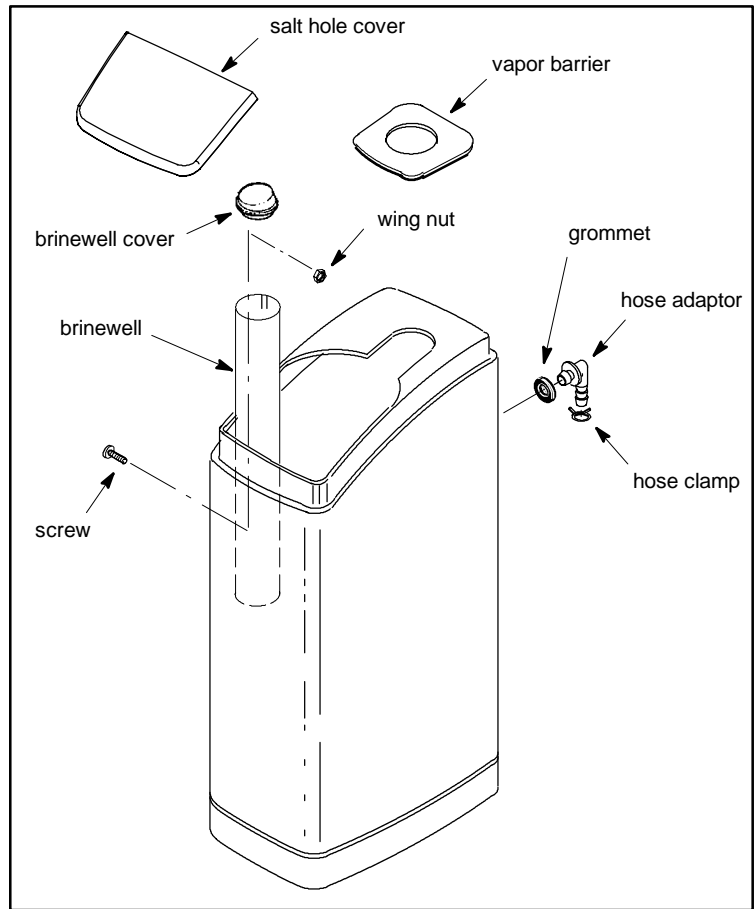

Figure 2
2. Remove the salt hole cover and set aside. **Figure 2.**
8. Remove the salt tank over flow drain hose adapter from the salt storage tank. Remove the grommet from the salt storage tank overflow hole and install grommet and drain hose adapter onto the new salt storage tank. **Figure 2.**
10. Remove brine well cover, grasp the brine line and lift up, removing the float valve from the brine well. Set aside. **Figure 2.**
11. Remove brine well by loosening the plastic wing nut and screw. Install brine well in new salt storage tank. **Figure 2.**